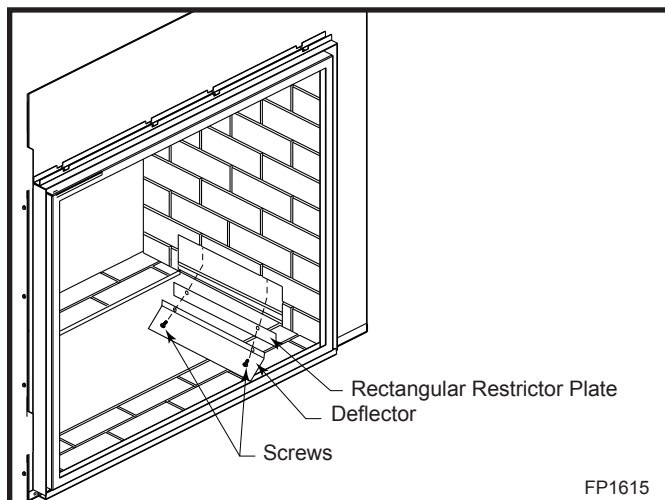

Fig. 31 Turn rectangular restrictor plate over to partially cover opening.
3. Remove the two (2) screws securing the deflector and the rectangular restrictor plate in place. (Fig. 31) Turn the restrictor plate around so the body of the plate will extend down over the air opening.